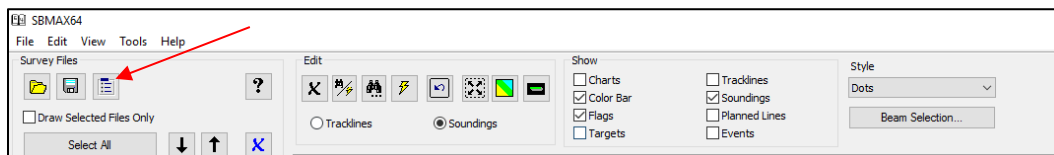
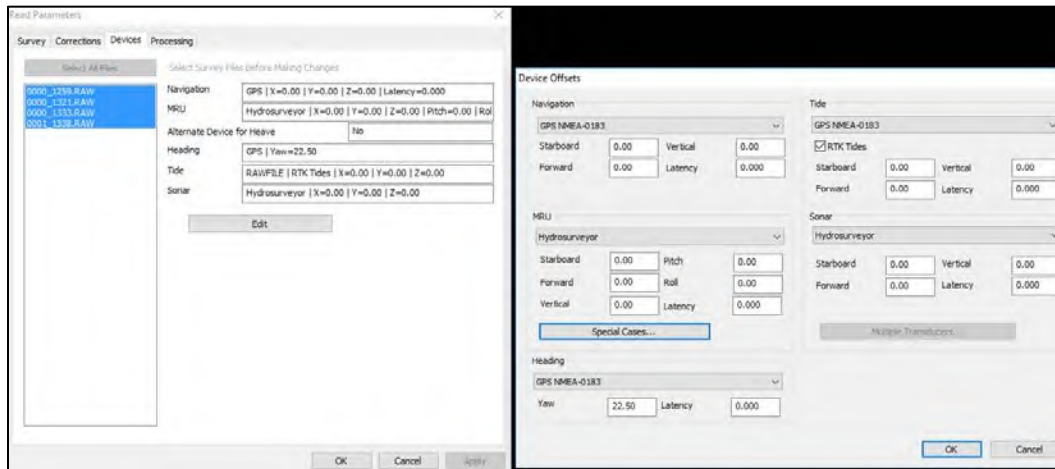
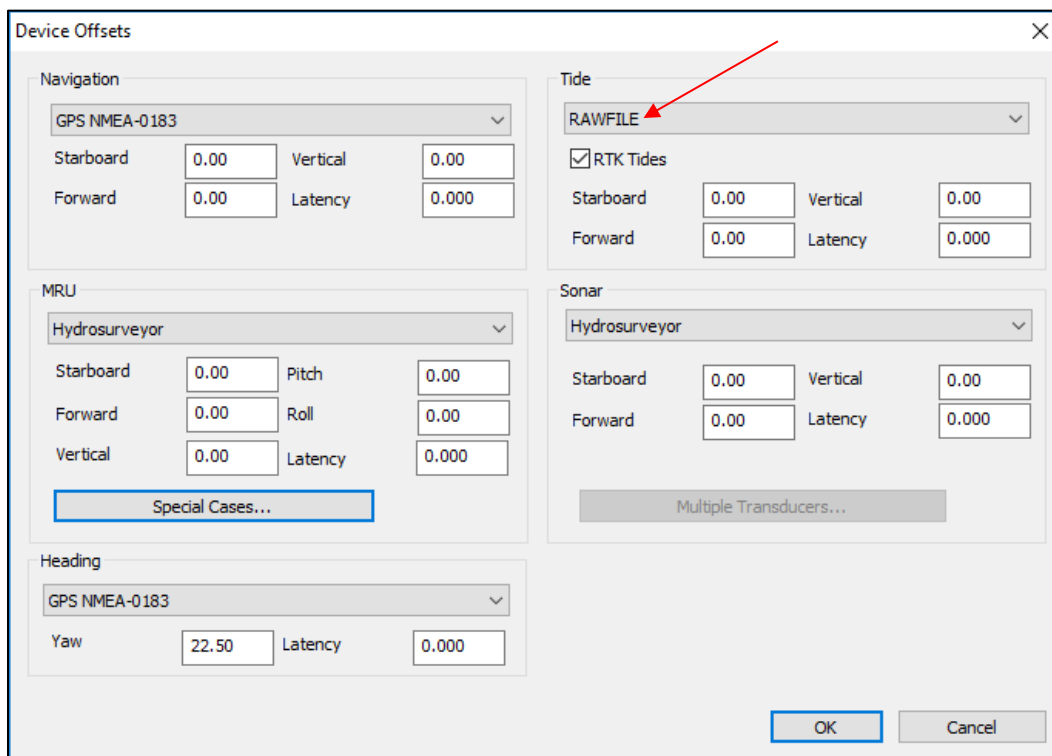

Figure 15.—Read Parameters icon (blue bullet list) in SBMAX64 main menu window.
Figure 18.—Device Offsets popup window via the Devices tab in the Read Parameters window.
Figure 20.—RAWFILE selection under Tide in the Device Offsets popup window.
In the SBMAX64 main menu window, click on the blue bullet list icon under Survey Files to access the Read Parameters window (figure 15).
- Under the **Devices** tab in the Read Parameters window, click “Edit.” In the Device Offsets popup window, set Navigation to the GPS device and both MRU and Sonar to the echosounder. Under Heading, input in combination of the SonTek M9 rotation and magnetic declination for the Yaw offset as discussed in the “SonTek M9 Device Setup” subsection previous to this. Under Tide, verify “RTK Tides” is checked. Click “OK” (figure 18).
At this juncture, go back into “Read Parameters” (figure 15). Under the Devices tab in the Read Parameters window, click “Edit” (figure 18). In the Device Offsets popup window, under Tide, the selection should now be “RAIIFILE” and the “RTK Tides” box is still checked. Click “OK” (figure 20).